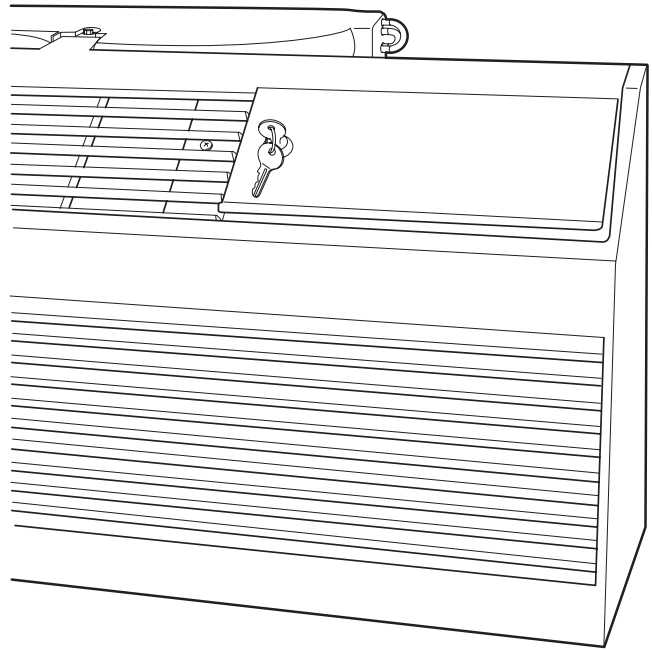

Fig. 4 — Assembled Unit with Locking Control Door
9. Reverse Step 1 to reinstall the plastic front panel. See Fig. 4.